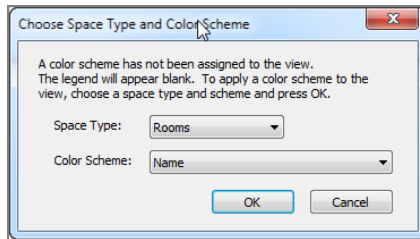

FIGURE 15.19: Specifying the color scheme
7. Change Space Type to Rooms and Color Scheme to Name (see Figure 15.19).